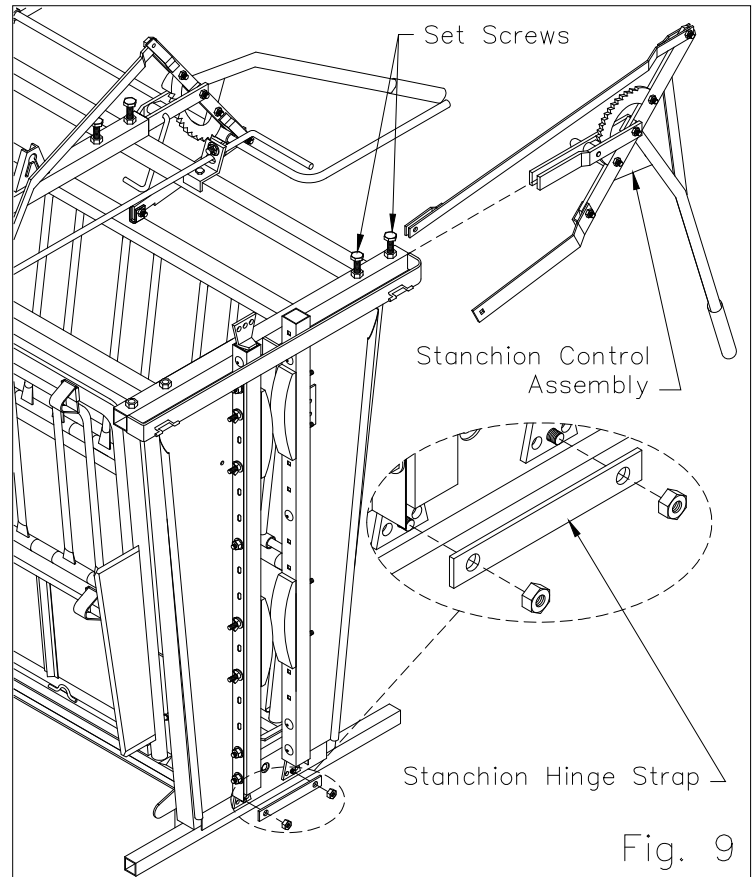

Fig. 9
Slide the Stanchion Cover Assemblies between the slots at the top of the front frame and onto the bolts on the bottom of the front frame as shown. (Refer to figure 9 for a picture of Stanchion Cover Assemblies attached to the chute frame.)
Using the (2) 5/8" lock nuts that were removed in step 6, bolt the Stanchion Hinge Strap onto the bottom of the chute as shown in figure 9.
Slide the Stanchion Control Assembly all the way into the front square tube as shown. Secure the Control Assembly to the chute by tightening the set screws as shown in figure 9.